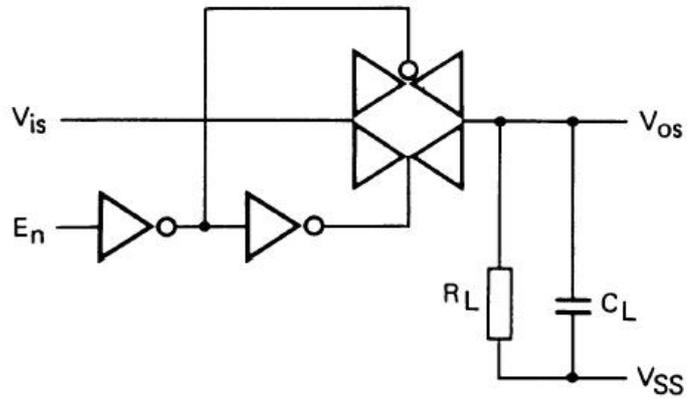

图 7
5. $R_L = 10 k$; $C_L = 15 pF$; $E_n = V_{DD}$; $V_{is} = 1/2 V_{DD}(p.p)$ (正弦波, 直流偏置为 $1/2 V_{DD}$); $f_i = 1 kHz$; 见图7.
$20\log (V_{OS} / V_{IS}) = -50\text{dB}$; 见图7;
$20\log (V_{OS} / V_{IS}) = -3\text{dB}$; 见图7;